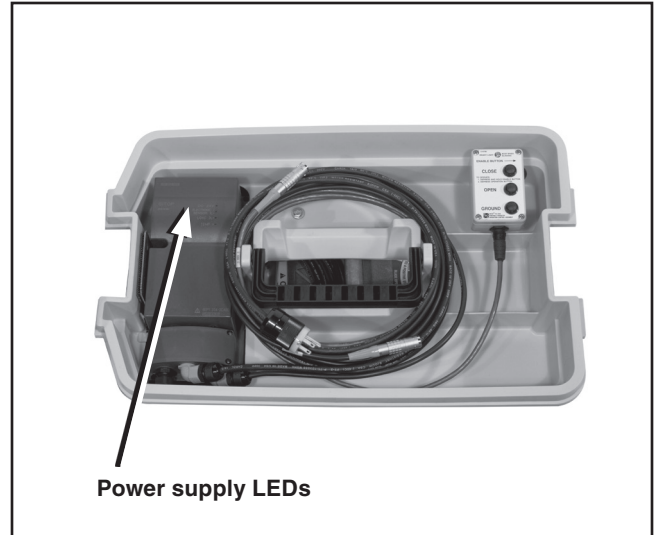

Figure 10. LEDs on the S&C-furnished ac-input power supply.
**STEP 7.** If the power source is an S&C-furnished ac-input power supply, insert its three-prong plug into a grounded 120-Vac power receptacle. Be sure to check that the LEDs labeled “DC 24V” and “LOAD 2L+” are lit on the power supply, as shown in Figure 10. If they are not lit, refer to Table 1 on page 13 and to the “Troubleshooting” section on page 15.